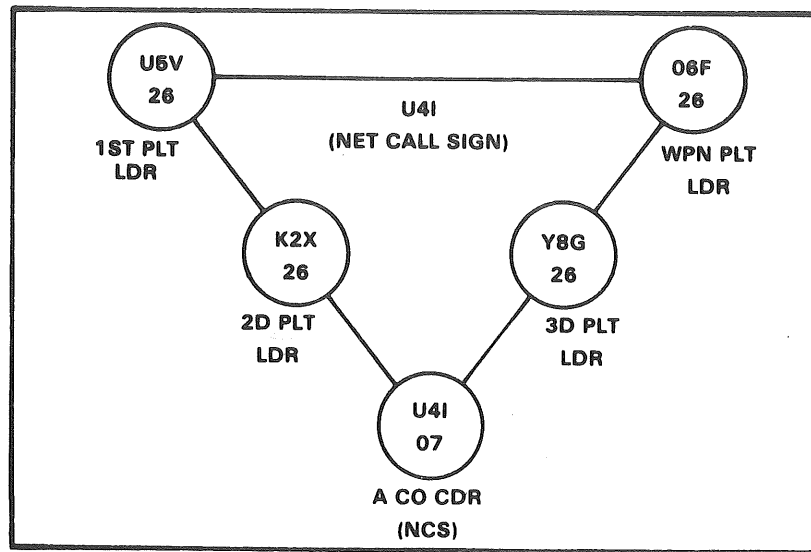

Figure 1. Simple Radio Net Diagram.
- c. Identify the net structure and determine the answering sequence, and make the appropriate response to the individual stations (fig 1).